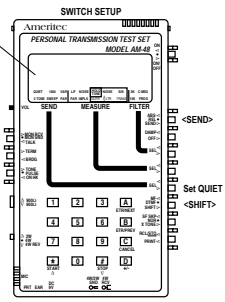

Figure 7-15. AM-48 Auto Calibrate Prompts
1. Go to the QUIET SEND display, “_ _ _ _ _ _ _ _”, by setting switches as shown in Figure 7-15.
2. Press [C] and hold for about five (5) seconds.
3. The display responds with a series of prompts shown and explained in Figure 7-15.